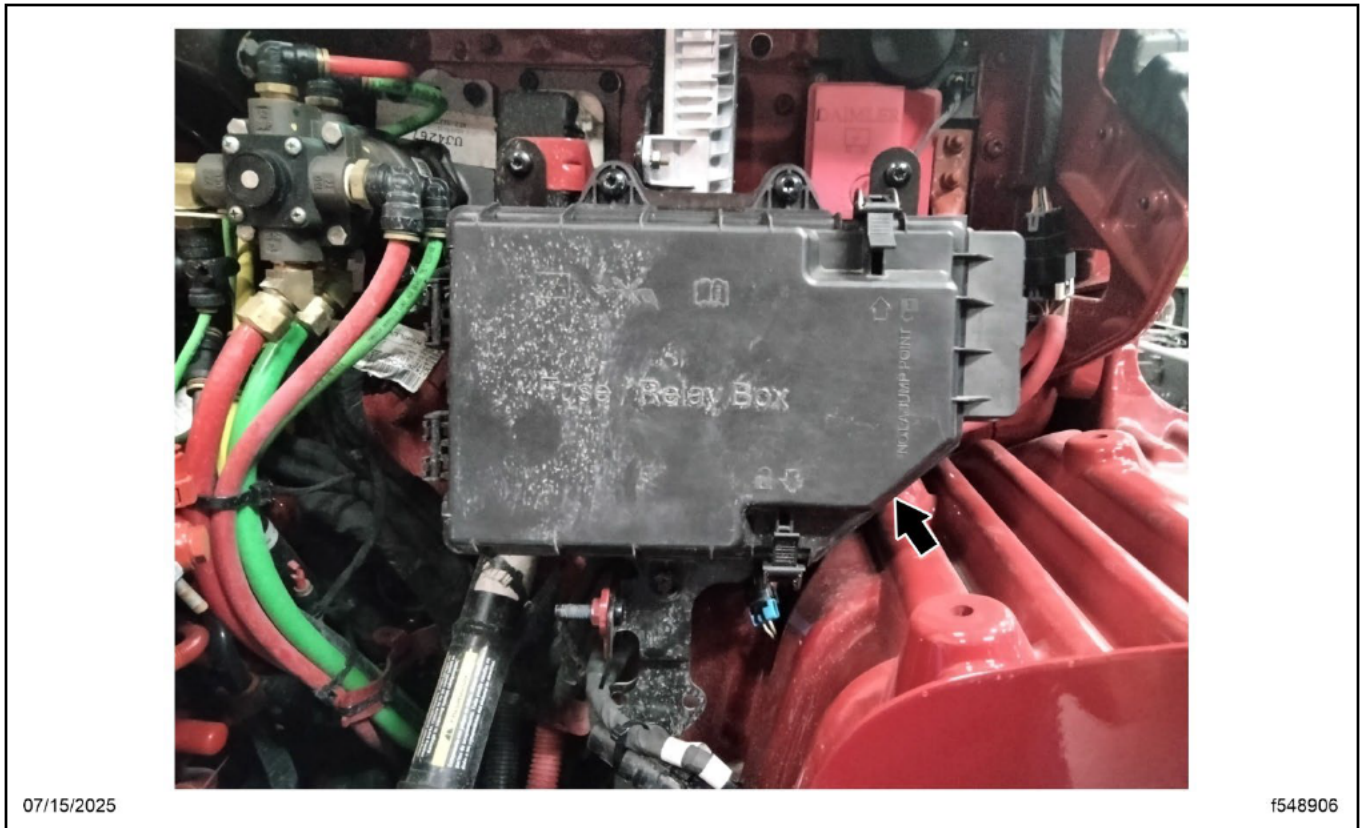

Fig. 2, VPDM Fuse Relay Box
5. Locate the VPDM cover. See Fig. 2. For detailed instructions and location, see **Group 54: 5.3** in the *108SD Plus and 114SD Plus Workshop Manual*.